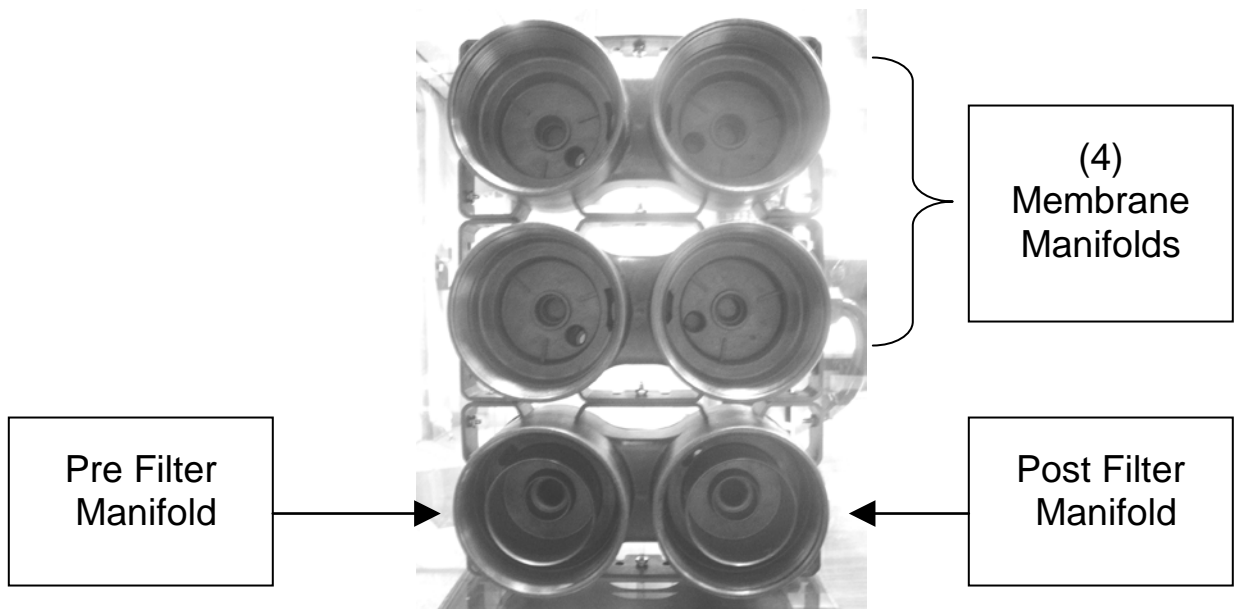

Figure 2. Manifold
3. The six membranes are installed in the manifolds with the single ring. Figure 2.